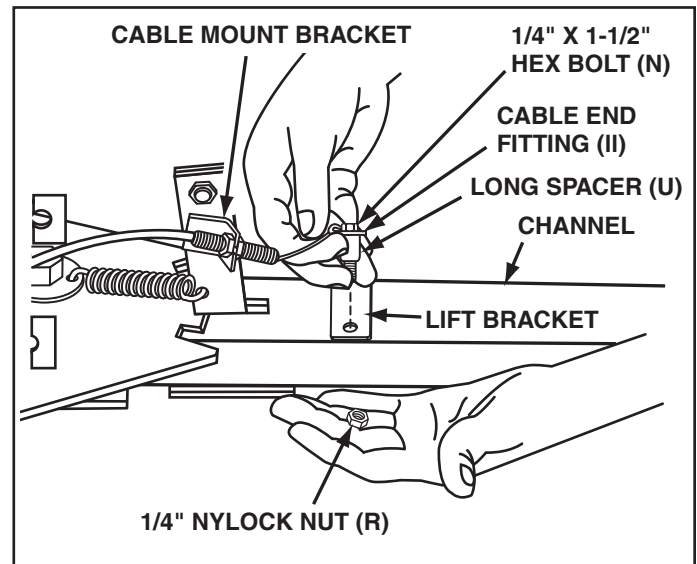

FIGURE 14
- Assemble a 3/8" x 1-1/4" carriage bolt (E) through the cable mount bracket (GG) and then mount it from the left side to the square holes in the angle lock bars. Secure the bracket at the angle shown in figure 14 with a 3/8" nylock nut (Q).
STEP 13: (SEE FIGURE 14)
- Attach the cable end fitting (LL) and the long spacer (U) to the left hand hole in the channel and lift bracket using a 1/4" x 1-1/2" hex bolt (N) and 1/4" nylock nut (R). **Tighten**, keeping the cable end fitting aligned with the threaded end of the cable.